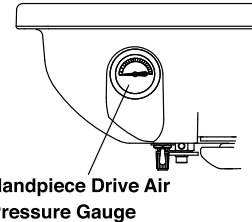

Fig.3-17 Handpiece Pressure Gauge
(5) Handpiece Pressure Gauge (Fig.3-17)